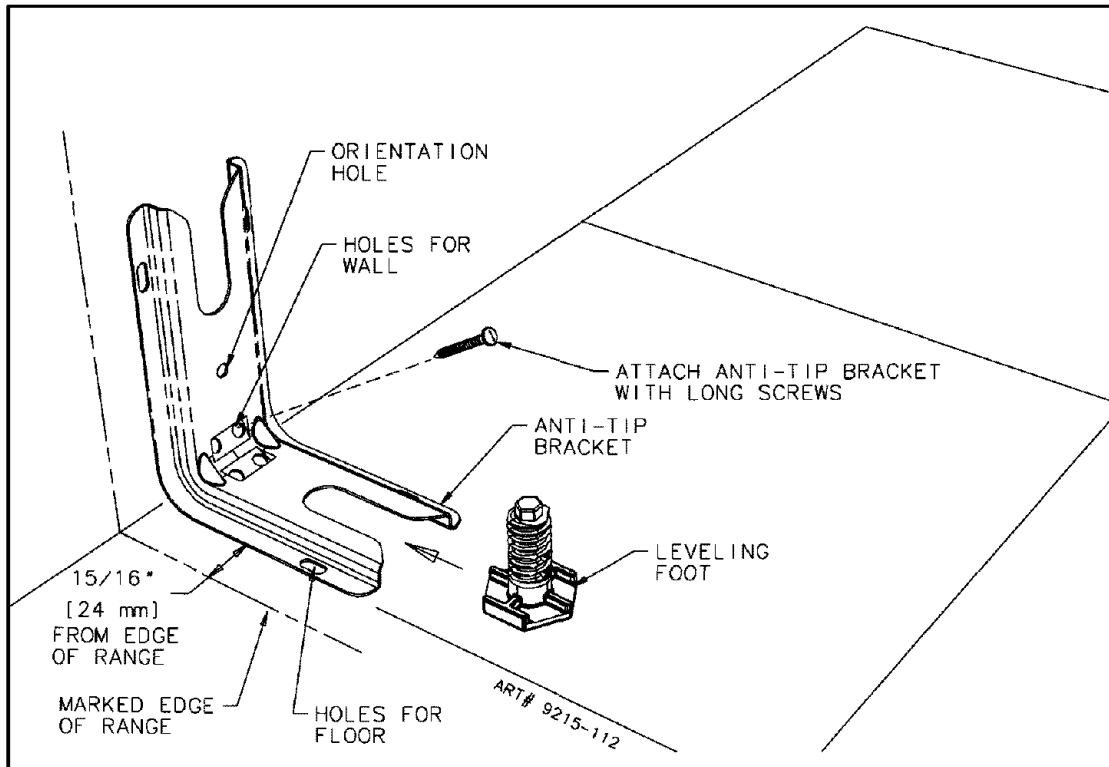
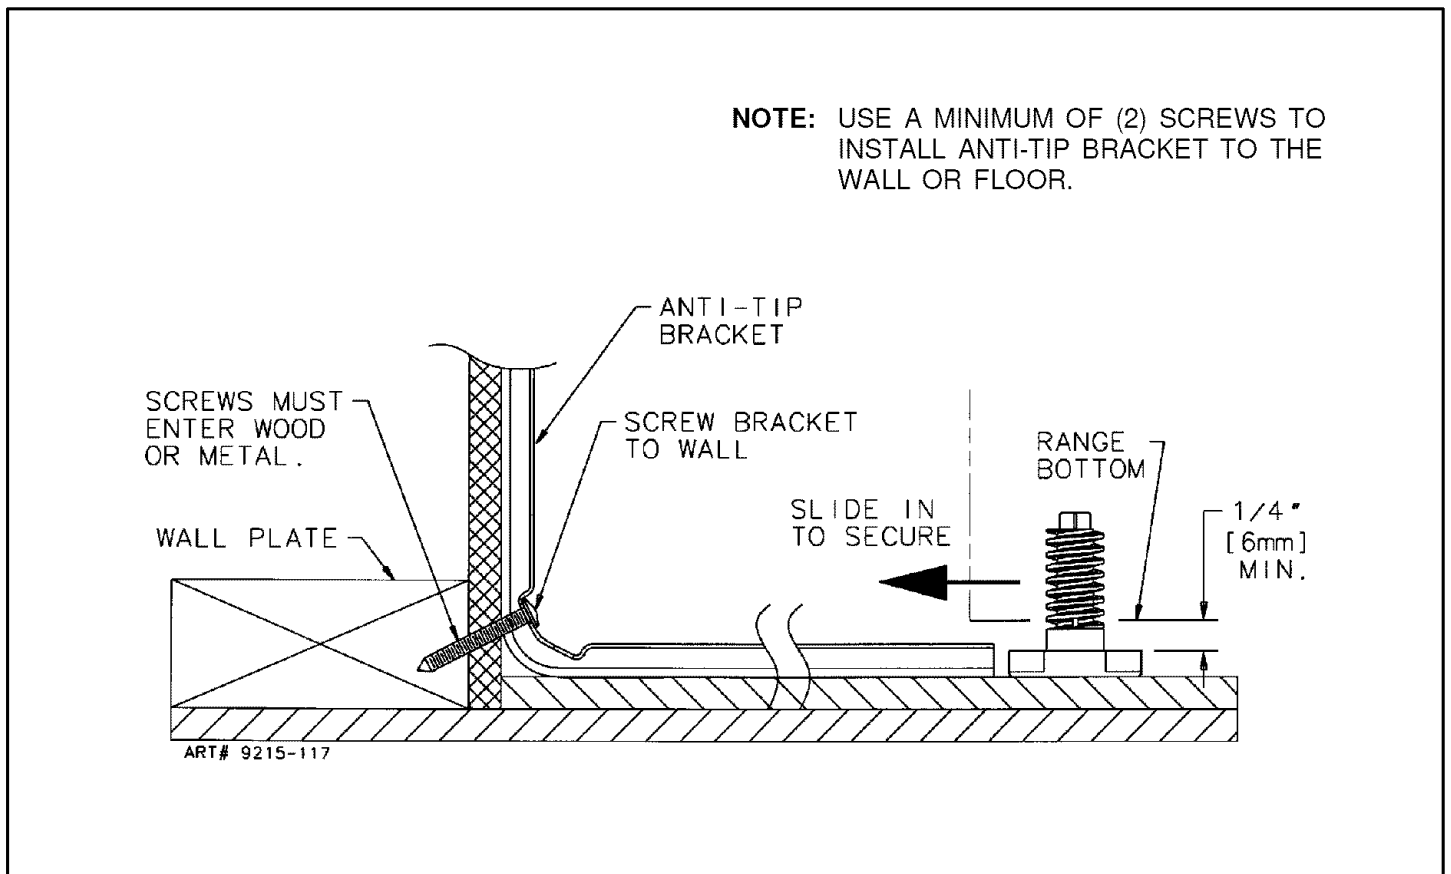

FIGURE 3
FIGURE 4
STEP 1 - Locating The Bracket (See Figure 3)
- B. Place the BRACKET 15/16" (24 mm) from the marked "EDGE" toward center of opening and against the back wall, as shown in figure 3, with orientation hole against wall.
- C. Use the bracket as a template and mark the required holes, as shown in figure 3 for the type of construction you will be using.
1. Floor: Locate the center of the two holes identified in figure 3 as "HOLES FOR FLOOR". Drill a 1/8" (3 mm) pilot hole in the center of each hole (a nail or awl may be used if a drill is not available). Secure the ANTI-TIP bracket to the floor with the two screws provided. Proceed to Step 3.
2. Wall: Locate the center of the two holes identified in figure 3 as "HOLES FOR WALL". Drill an angled 1/8" (3 mm) pilot hole in the center of each hole as shown in figure 4. (A nail or awl may be used if a drill is not available). Secure the ANTI-TIP bracket to the wall with the two screws provided as shown in figure 4. Proceed to STEP 3.
1. Suitable screws for concrete construction can be obtained at the hardware store. Drill the required size hole for the hardware obtained into the concrete at the center of the holes identified in figure 3 as "HOLES FOR FLOOR". Secure the ANTI-TIP bracket to the floor. Proceed to STEP 3.
- B. Align the range to its designated location and slide it back into position. Note: A minimum clearance of 1/4" (6 mm) is required between the range and the leveling foot that will engage the ANTI-TIP bracket, see figure 4.